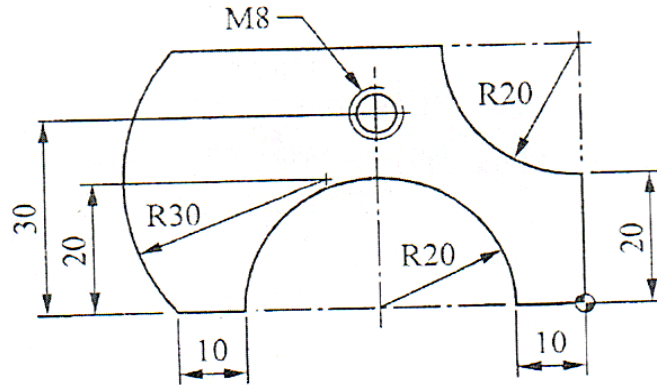

Fig. 3, Q No 7(b)
b) Write CNC program for the part as shown in Fig. 3. Assume suitable data. [12]